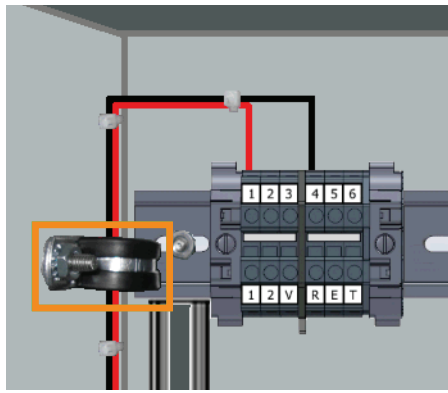

Figure 4 Secure 12 V Terminal Block Wires
Step 4. Install the wire clamp to the side of the cabinet with a nut and route the wires through it. See *Figure 4*.